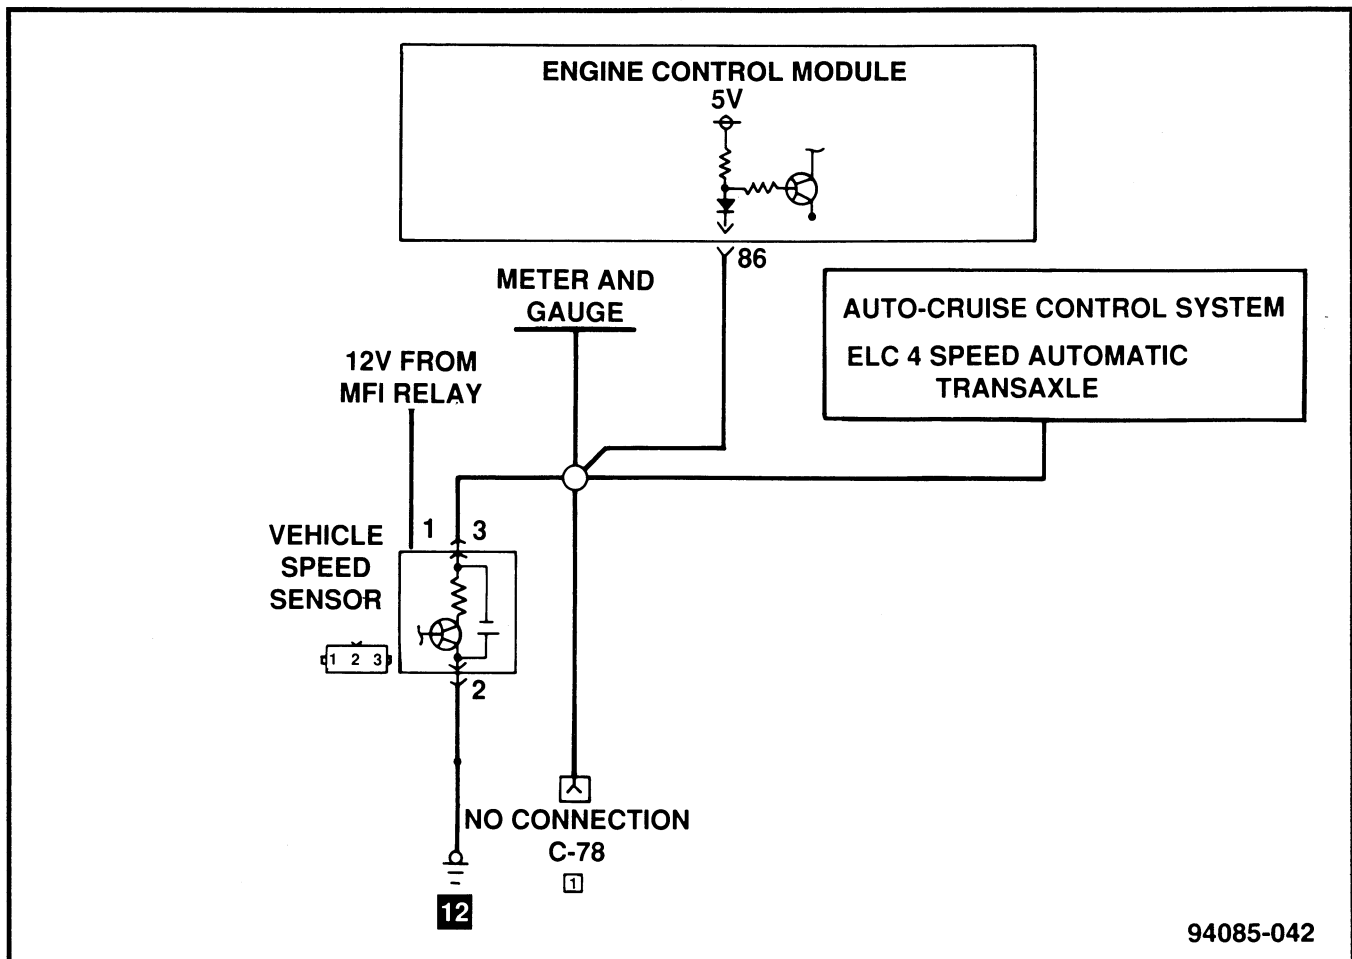

Figure 40 Vehicle Speed Sensor Circuit
The VSS uses a 3-way connector, and is fed battery voltage from the ignition switch on pin 1 (BK/WT) (fig. 40). Ground is provided on pin 2 (BK). The ECM (pin 86) sends a 5-volt signal to pin 3 (YL). The VSS signal is shared also with the Transaxle Control Module (TCM) (if the vehicle has an A/T), the speed control module, and the speedometer. The signal is sent also to pin 14 of the data link connector (DLC). As the speedometer drive gear rotates, the 5-volt signal from the ECM is grounded four times per revolution or 4,000 times per mile. The signal the ECM receives is a digital 5-volt square wave. The ECM uses the VSS signal for deceleration fuel-idle speed control. The VSS also has an effect on radiator fan control. (See radiator fan control relays in the Output section.)